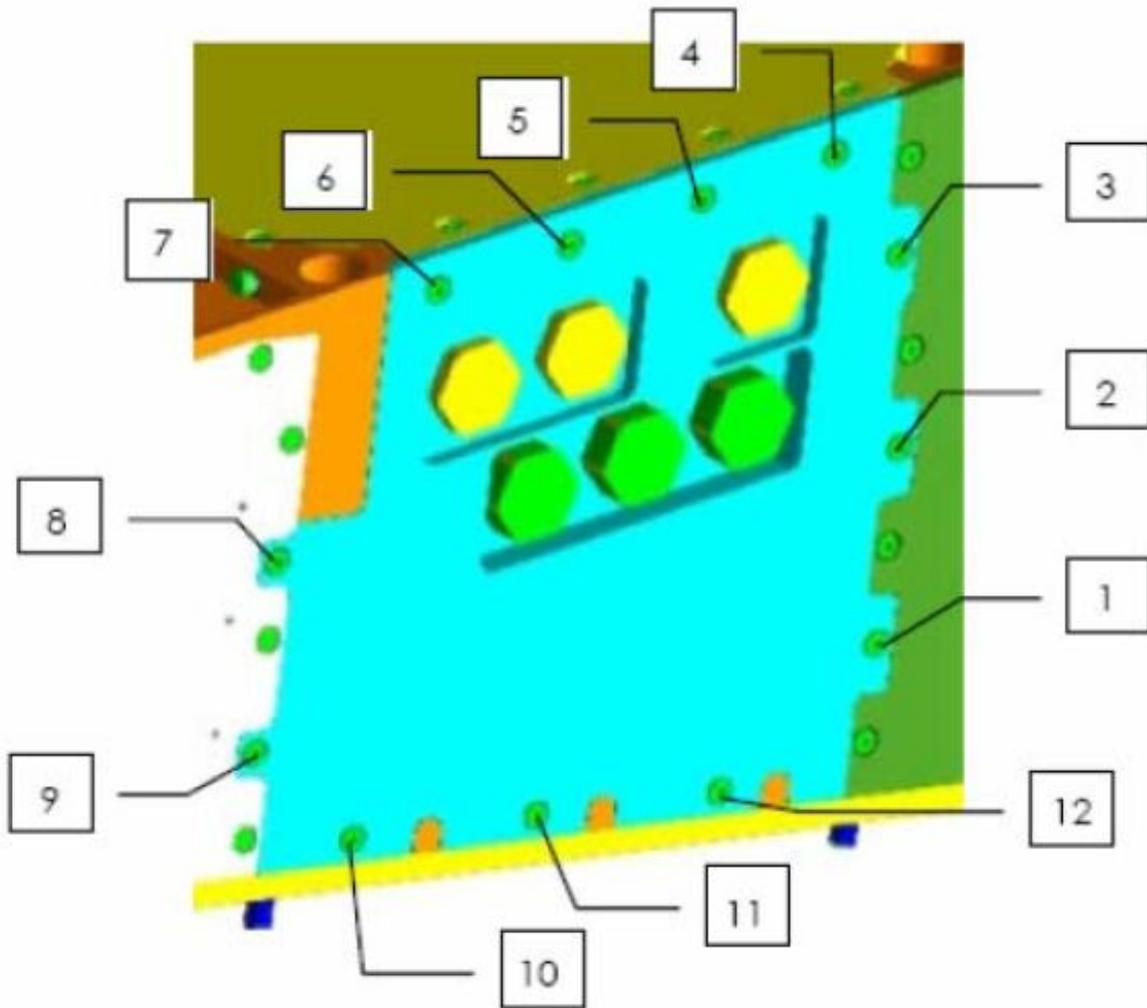

Figure 13. Spectrophotometer Lamp Assembly door screws
Spectrophotometer Lamp Assembly Door captive bolts (12) → unscrew (↻ (3 X 62 mm Folding L-Wrench) (ref. to fig. 13)